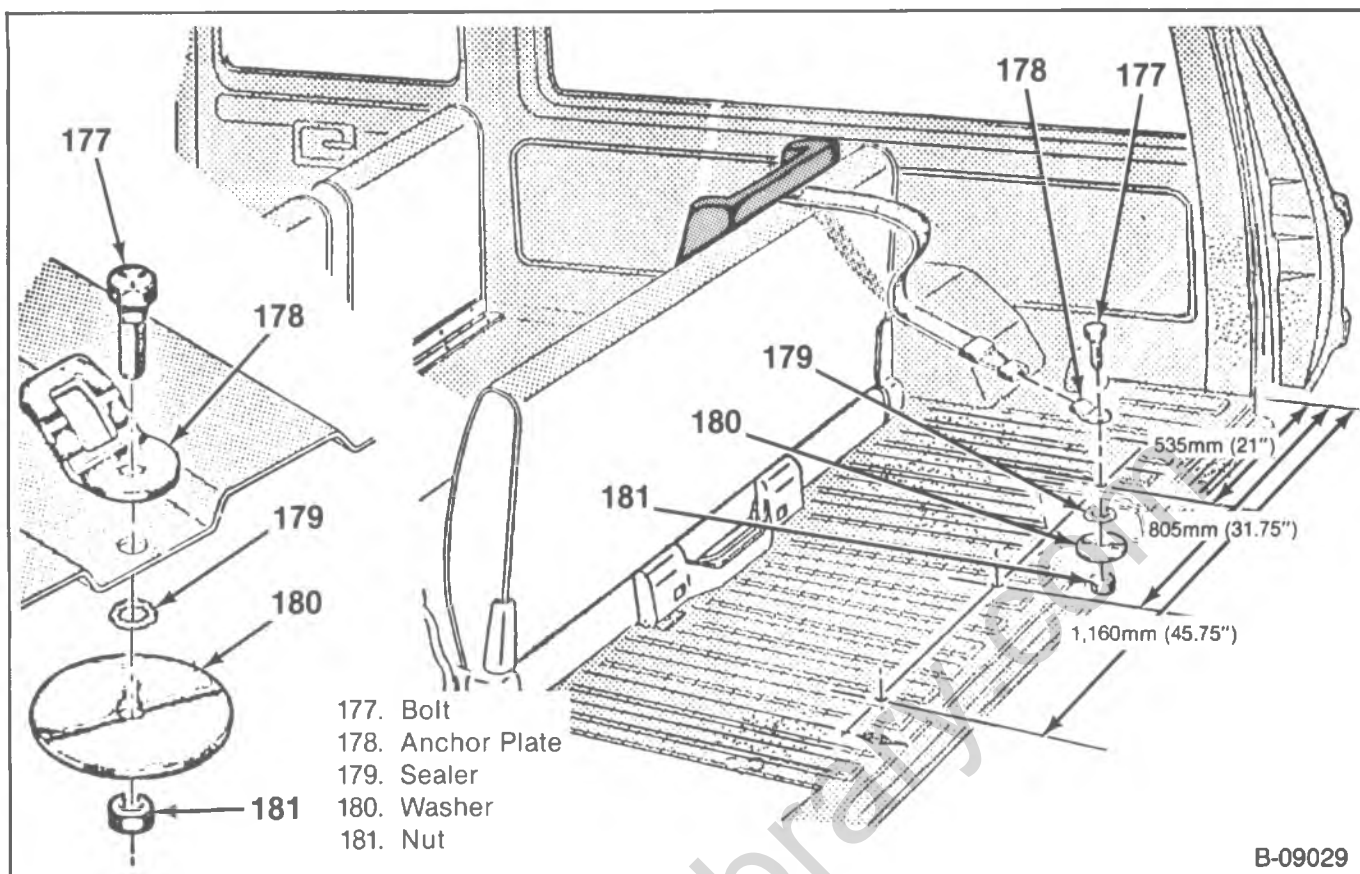

Figure 31—Suburban Third Seat Top Strap Belt Components
1. Determine the location for the anchor by measuring 127 mm (5-inches) forward from the rear edge of the floor pan. Make this measurement in the center of one of the depressed floor pan ribs (figure 31).